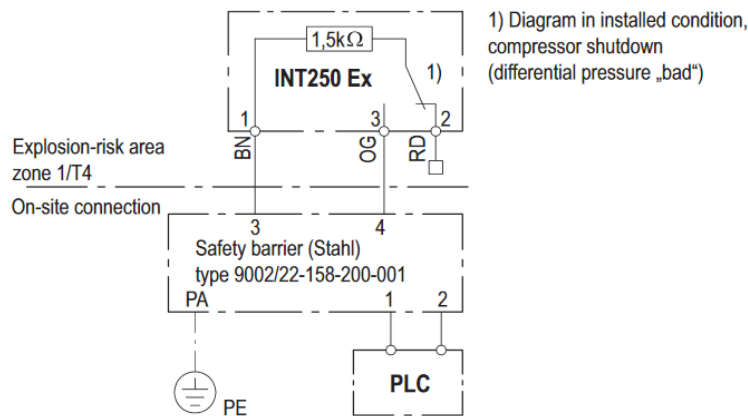

Fig. 28 Connecting electrical scheme INT250Ex
- ✓ connect to the control system (see Fig. 28).